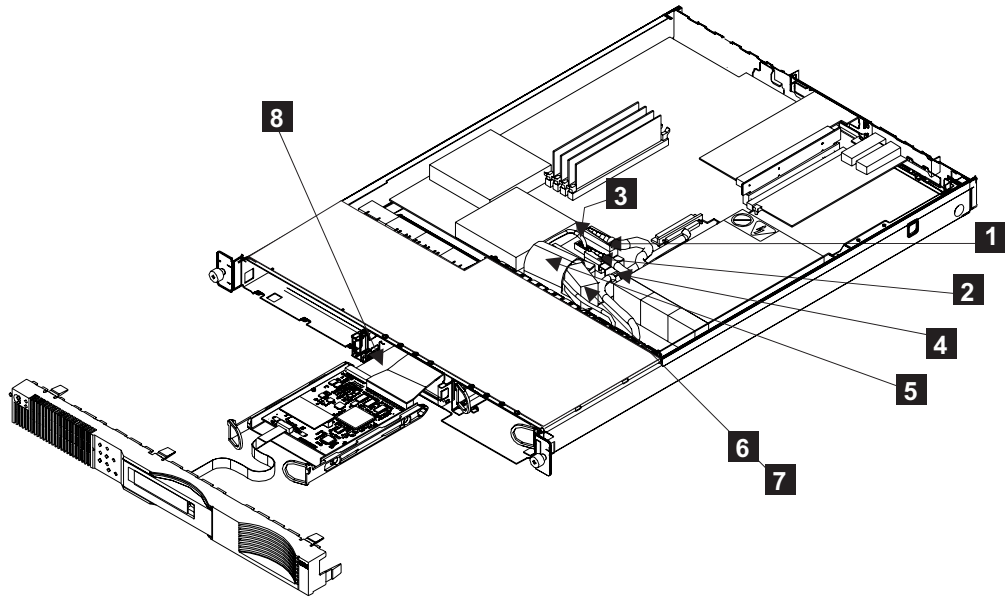

Figure 40. Service controller cables
5. Press the latch on power connector P1 **1**, and disconnect it from the system board. See Figure 40 on page 170.